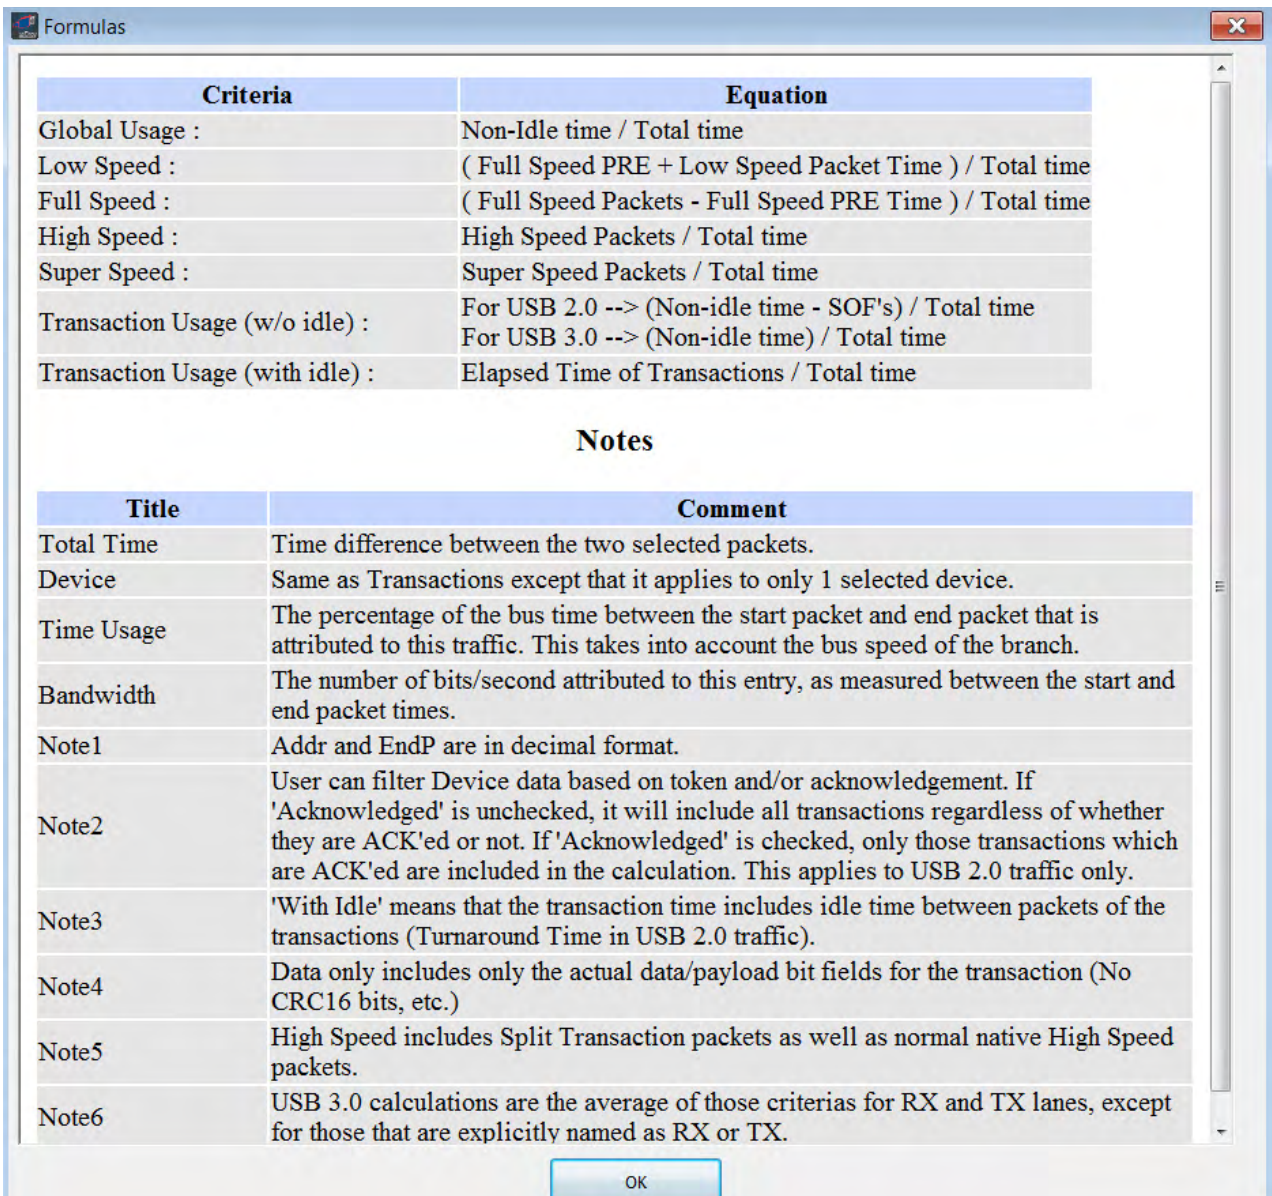

Figure 9.9: Formulas Window
4. Click the **Show Formulas** button to display the Formulas window (see Figure 9.9 on page 310, with the formulas used).